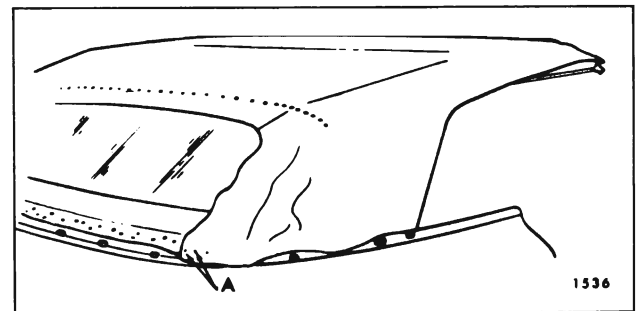

Fig. 13-26 — Tacking Top Material
to centerline mark on rear roof bow. (See Fig. 13-26).
38. Using previously marked lines (ends of trim stick) as locating reference, tack top material to rear and rear quarter trim sticks. "A" in Figure 13-26 shows top material installed to rear trim stick at inboard edge.